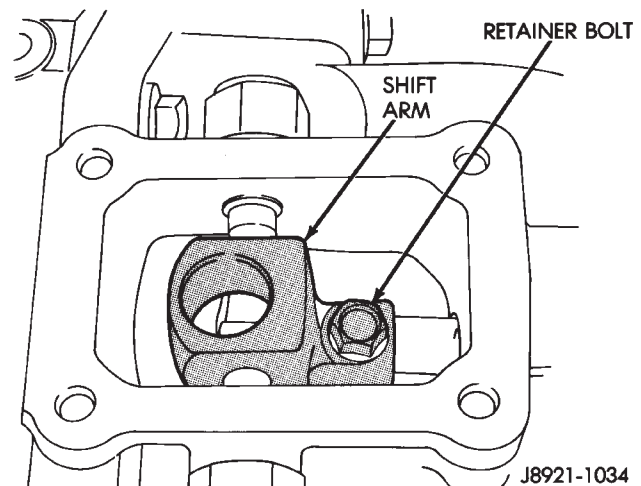

Fig. 4 Shift Arm Retainer Bolt Removal/Installation
- (5) Remove shift arm retainer bolt (Fig. 4).